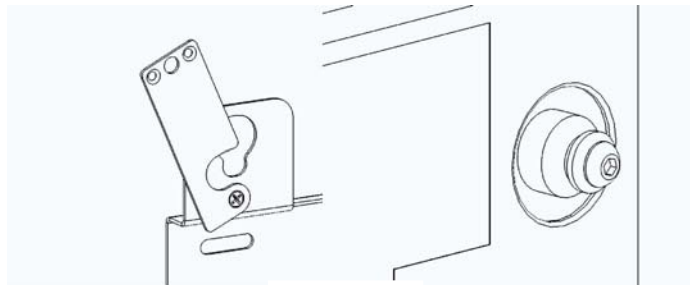

Figure 2
1. Using a 10-24 flat head cap screw inserted from chamfered hole side of latching flag, install flag using nylock nut (see figure 2) tighten nut until the flag will hold itself in place using friction.
2. Place nylon mounting buttons on mounting holes and attach using the M8-1.25 x 35 mm BHCS (see figure 2).